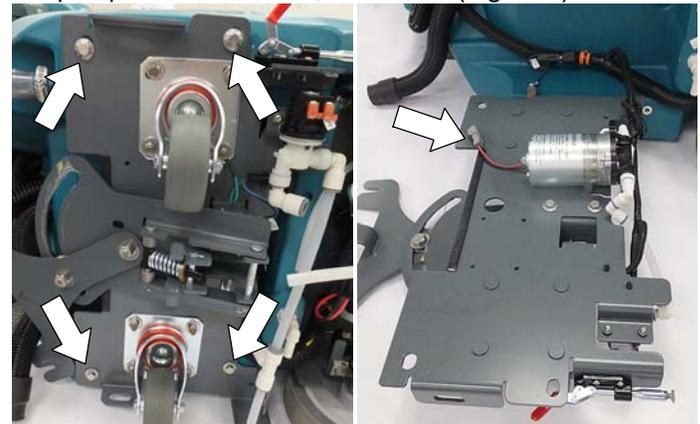

Fig. 5
3. Remove four screws from the machine frame and carefully lower frame to floor. Disconnect the ec- H2O pump wire connection, if installed (Figure 5).